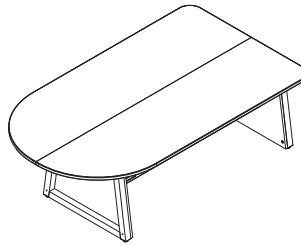

Figure 4
- A. Using 4-5 people, carefully tip the table up on its side and over until upright. **Figure 4.**